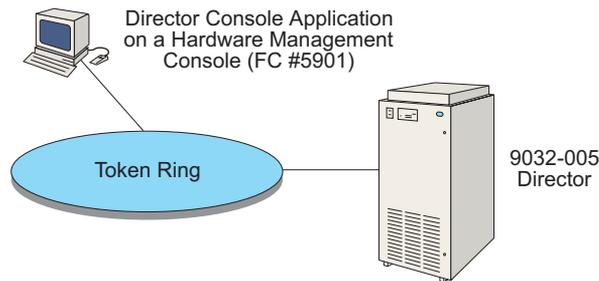

Figure 26. Director Console Application on a Hardware Management Console
3. The System/390 (S/390) Server's Hardware Management Console (Figure 26). The S/390 Hardware Management Console must have a Token Ring adapter card installed to support this configuration.